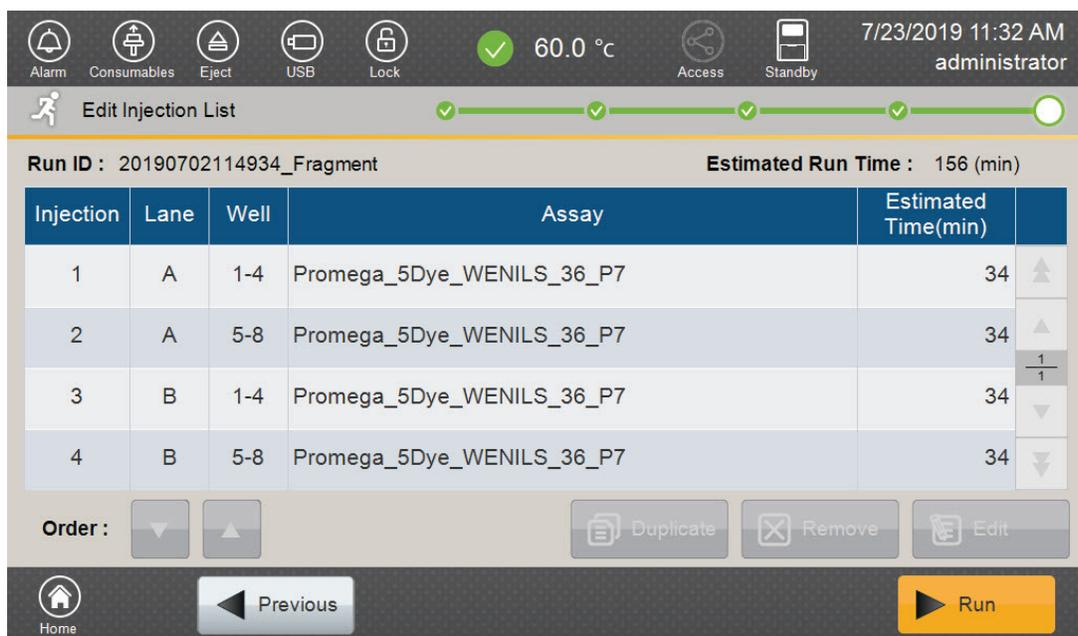

Figure 21. 'Edit Injection List' Screen.
4. After the autosampler has returned to its home position, the 'Edit Injection List' screen will be displayed (Figure 21).